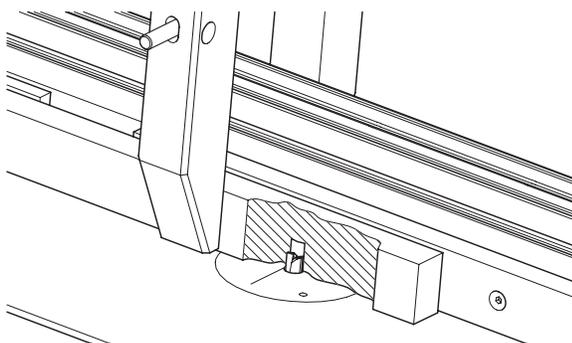

Figure 15: Make first plunge cut to a full depth of mortise. Ensure fence is securely locked to the router table at both ends.
- With the bit depressed below the router table and the fence retracted so that the front sled stop is in contact with the front position stop, lock the fence to the table. Turn on the router, raise the bit to cut to the full depth of the mortise, then retract it fully (see **Figure 15**).